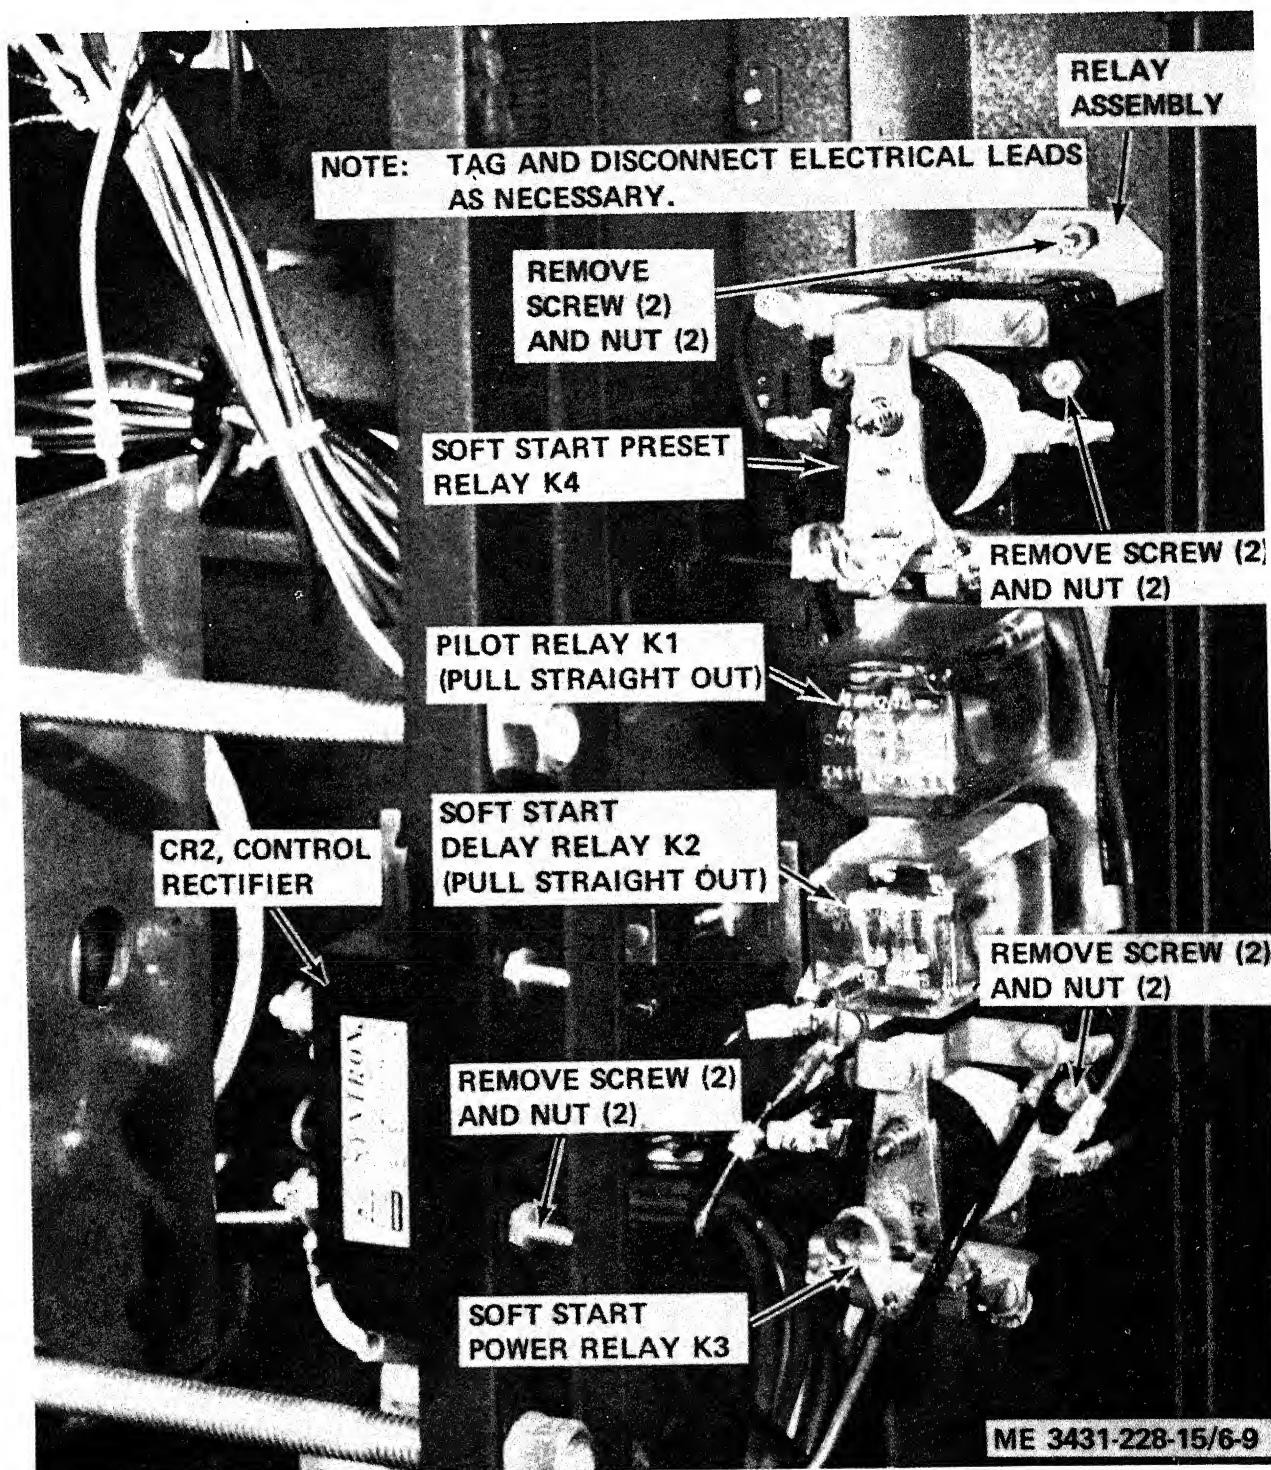

Figure 6-9. Relays K1, 2, K3, K4, control rectifier CR2, and relay assembly, removal and installation.
- (2) Refer to figure 6-9 and remove relays K1, K2, K3, K4 and control rectifier CR2 as required.
- (1) Refer to figure 6-9 and install relays K1, K2, K3, K4, and control rectifier CR2.
- (2) Install top and housing (para 3-20).
(1) Remove the top and housing from the welding machine (para 3-20).
(2) Refer to figure 6-9 and remove the two screws and nuts that mount the relay assembly on the front control panel.
(2) Refer to figure 6-9 and mount the relay assembly.
(3) Install the top and housing (para 3-20).